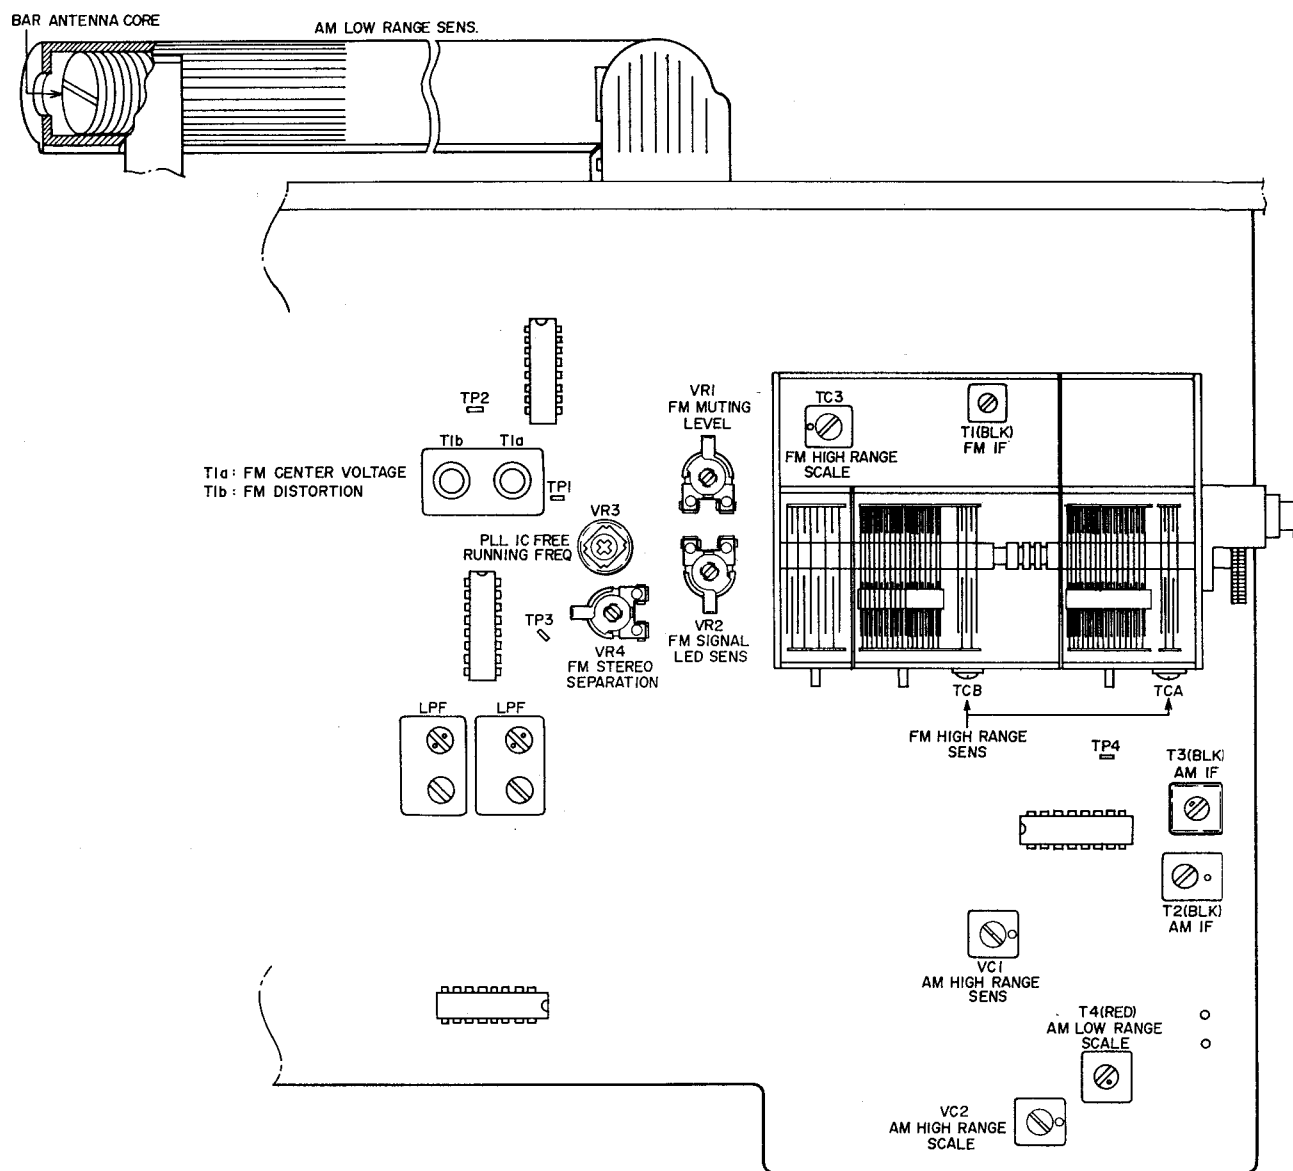
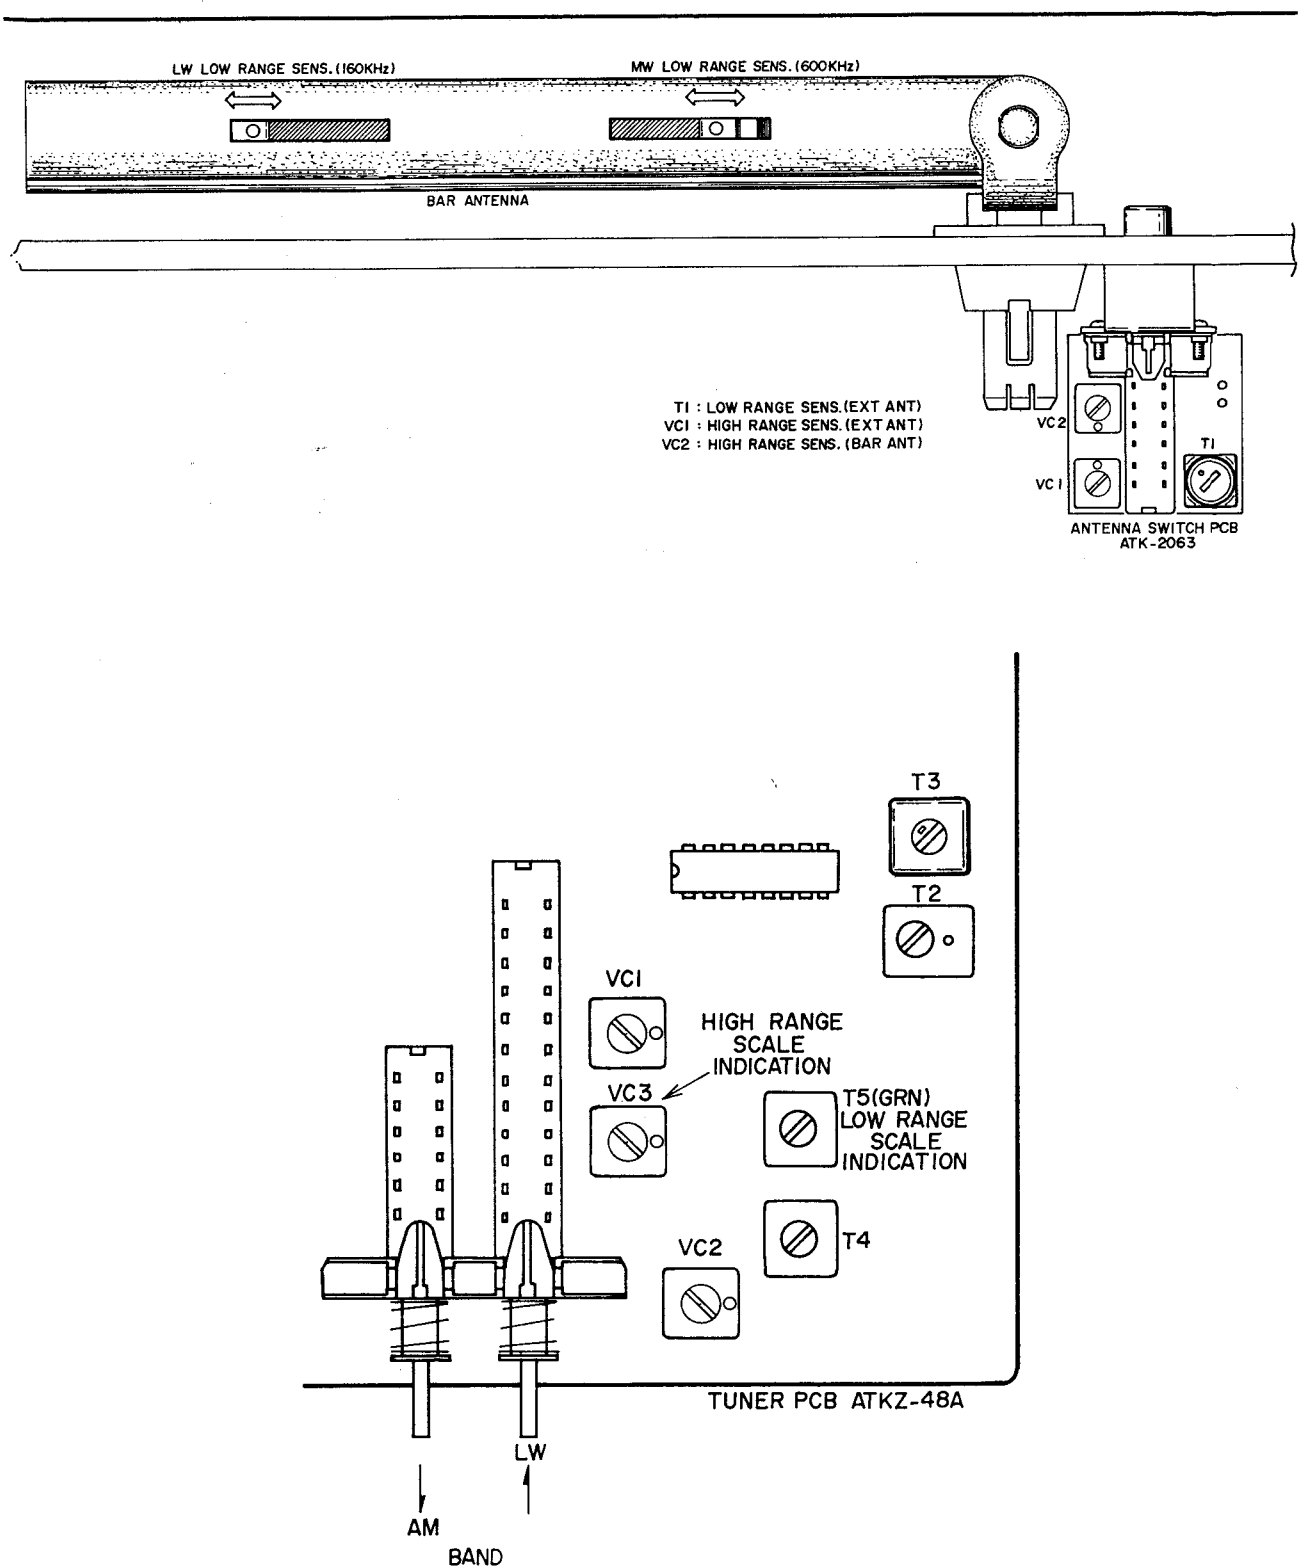
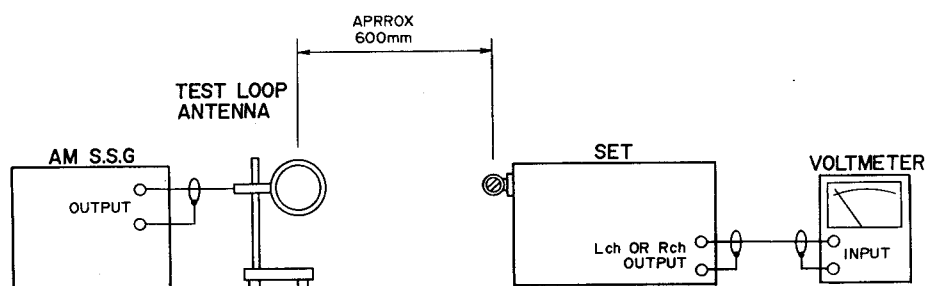
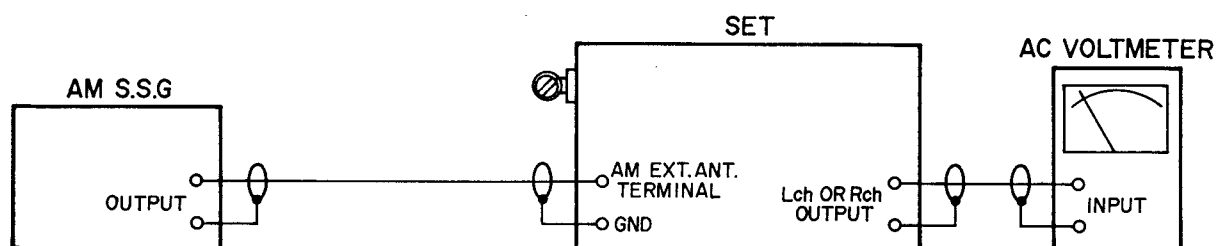

Fig. 8 Tuner P.C Board
Fig. 9 Tuner P.C Board ATKZ-48A and Antenna Switch P.C Board ATK-2063 (AT-K11L and AT-K22L)
Fig. 12 Instrument Connections For AM(MW) Section Adjustments and Steps 1 to 4 of LW Section Adjustments
Fig. 13 Instrument Connections For Steps 5 and 6 of LW Section Adjustments
1. FM SECTION ADJUSTMENTS (Refer to Figs. 8, 10, 11)
Unless otherwise specified, use the adjustment points provided on the Tuner P.C Board (Fig. 8).
2. AM (AT-K11L and AT-K22L: MW) SECTION ADJUSTMENTS (Refer to Figs. 8, 9, 10, 12)
Unless otherwise specified, use the adjustment points provided on the Tuner P.C Board (Fig. 8)
| 5 | Low Range Sensitivity | Bar Antenna Core AT-K11, K22: Fig. 8 AT-K11L, K22L: Fig. 9 | Maximum Output Distortion Factor: Less than 10% | 600 kHz, 50 dB, 400 Hz (30%) input. |
3. LW SECTION ADJUSTMENTS (AT-K11L and AT-K22L Only; Refer to Figs. 9, 12, 13)
Unless otherwise specified, use the adjustment points provided on the Tuner P.C Board (Fig. 9).
| 1 | High Range Scale Indication | VC3 | (AT-K11L) Maximum Output | 340 kHz, 50 dB, 400 Hz (30%) input. Scale indicator to 340 kHz. Error: Within 2% (Refer to Fig. 12) |
| 2 | Low Range Scale Indication | T5 (GRN) | (AT-K11L) Maximum Output | 150 kHz, 50 dB, 400 Hz (30%) input. Scale indicator to 150 kHz. Error: Within 2% (Refer to Fig. 12) |
| 3 | Low Range Sensitivity (Bar Antenna) | Bar Antenna Core (Fig. 9) | Maximum Output Distortion Factor: Less than 10% | 160 kHz, 50 dB, 400 Hz (30%) input. (Refer to Fig. 12) |
| 4 | High Range Sensitivity (Bar Antenna) | VC2 Antenna Switch P.C Board (Fig. 9) | Maximum Output Distortion Factor: Less than 10% | 300 kHz, 50 dB, 400 Hz (30%) input. (Refer to Fig. 12) |
| 5 | Low Range Sensitivity (EXT. Antenna) | T1 Antenna Switch P.C Board (Fig. 9) | Maximum Output Distortion Factor: Less than 10% | ANTENNA SELECTOR to EXT. 160 kHz, 20 dB, 400 Hz (30%) input. (Refer to Fig. 13) |
| 6 | High Range Sensitivity (EXT. Antenna) | VC1 Antenna Switch P.C Board (Fig. 9) | Maximum Output Distortion Factor: Less than 10% | 300 kHz, 20 dB, 400 Hz (30%) input. (Refer to Fig. 13) |